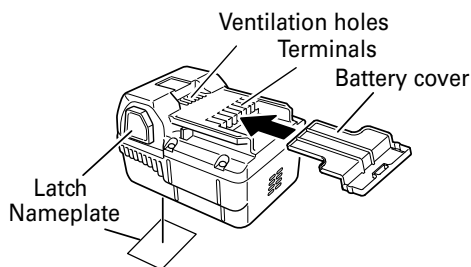

Fig. 1
- Install the battery in the gardening appliance until the ventilation holes shown in Fig. 1 are concealed to prevent short-circuits.